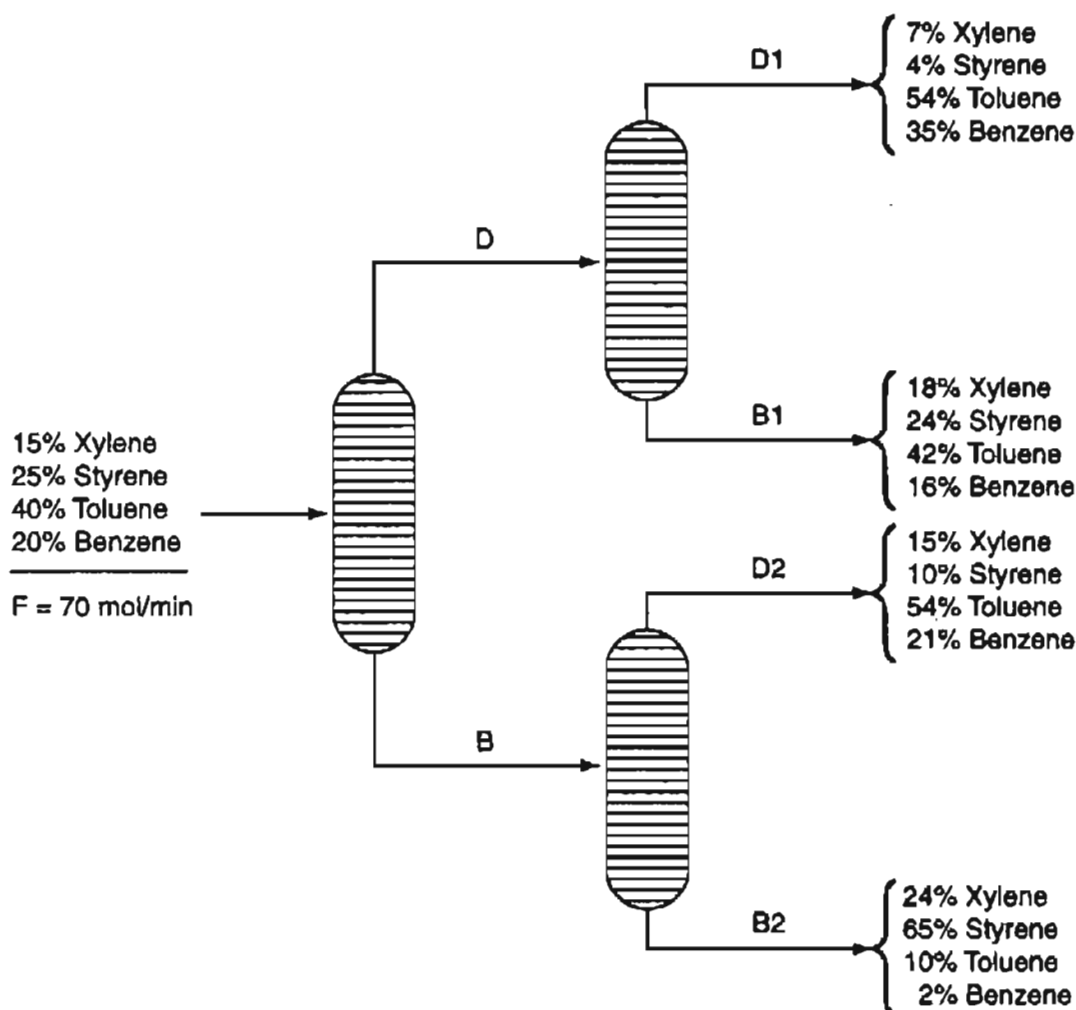

Figure P11.7
***11.7** Examine Figure P11.7 provided through the courtesy of Professor Mike Cutlip.